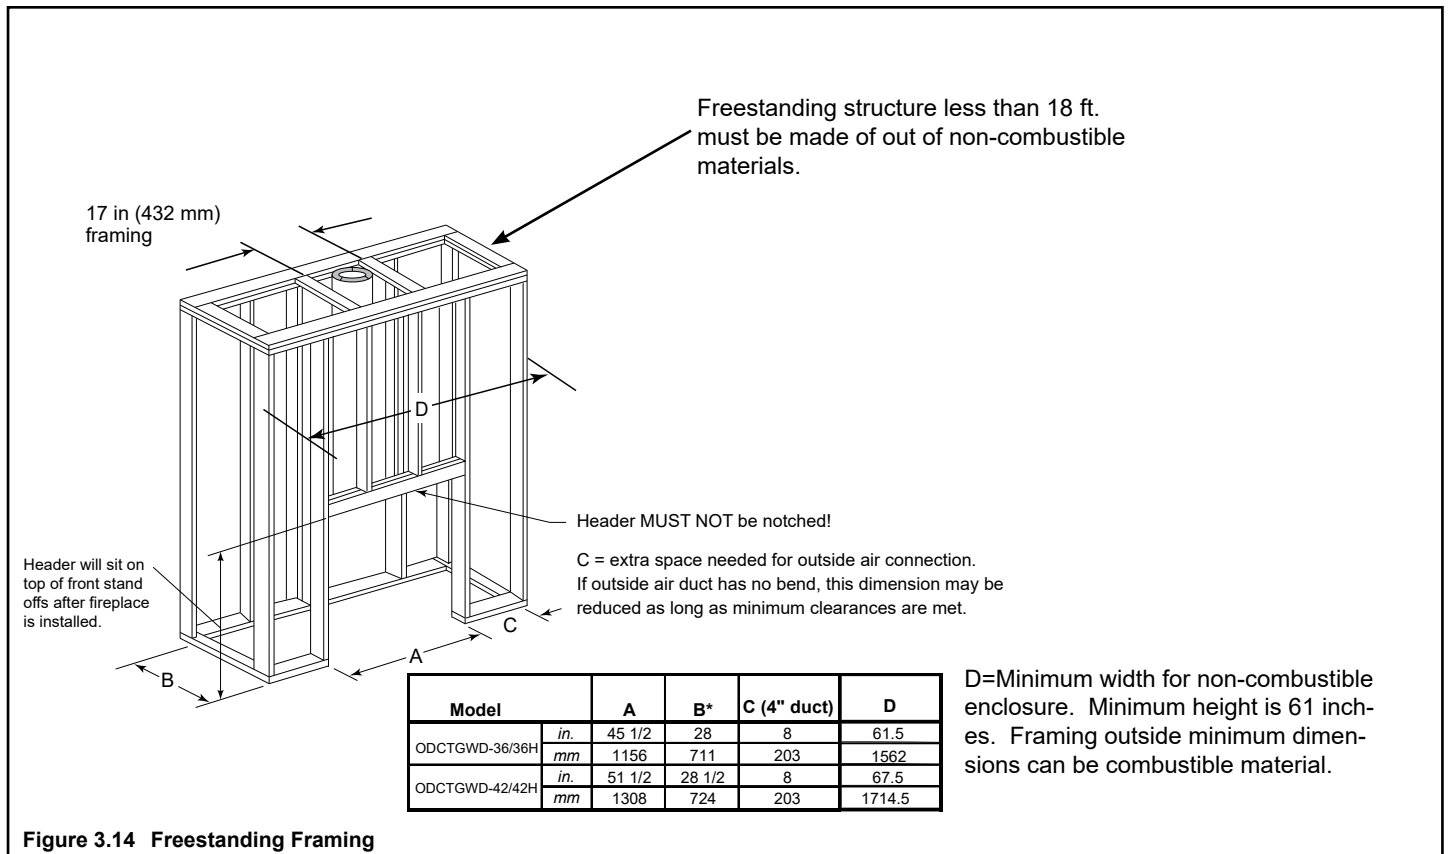

Figure 3.14 Freestanding Framing
• **Freestanding Installations (see Figure 3.14 and 3.15)**
When installing this fireplace as a freestanding fireplace in your yard, it must be enclosed to prevent impact damage to the fireplace. Freestanding applications allow for a reduction in the minimum vent run. Non-combustible framing and an extended smoke shield are required. See Table 3.1 and Figure 3.14.